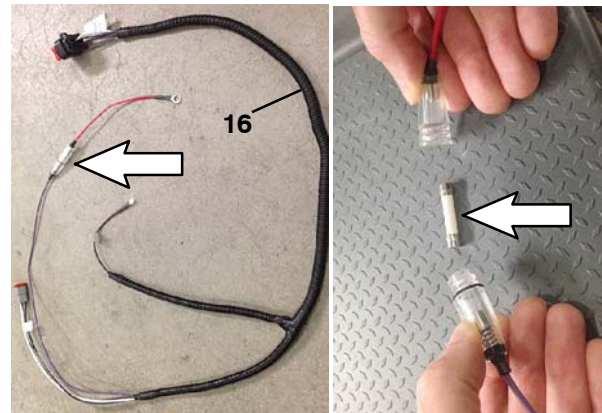

Fig. 5
2. IMPORTANT: To prevent possible damage to telemetry system during install, remove the inline fuse from the telemetry harness (16). (Fig. 5) Do not misplace fuse.